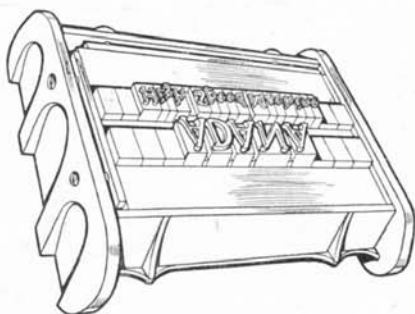

Fig. 45. Forme locked direct in the bed.
Between stages (3) and (4) comes the setting of the type and the locking of the type forme either in the chase or in the bed. We will presume that the forme has been properly composed, planed, and locked up and that you are ready to return the bed to the machine. (Figures 45 and 46 illustrate a forme locked direct in the bed and in a chase in the bed, of a No. 1 High-Speed machine respectively.)